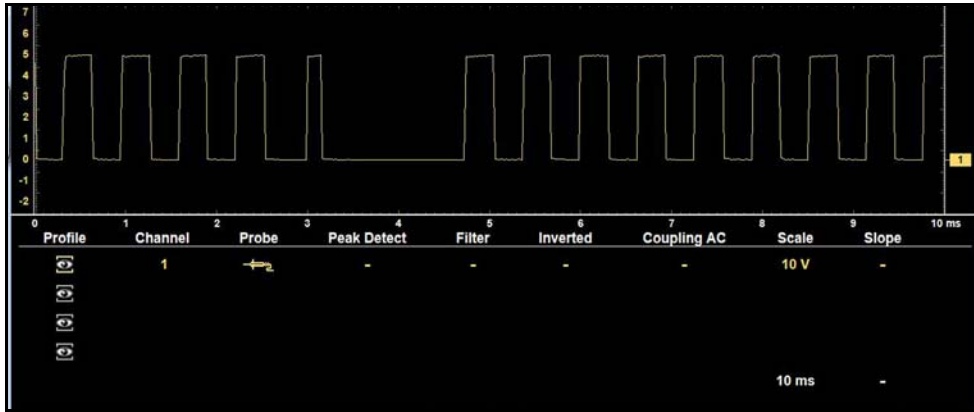

Figure 8-29
- **Normal** —control setting icons are displayed (e.g. Profile, Channel, Probe, Filter, Scale, etc) (Figure 8-29)